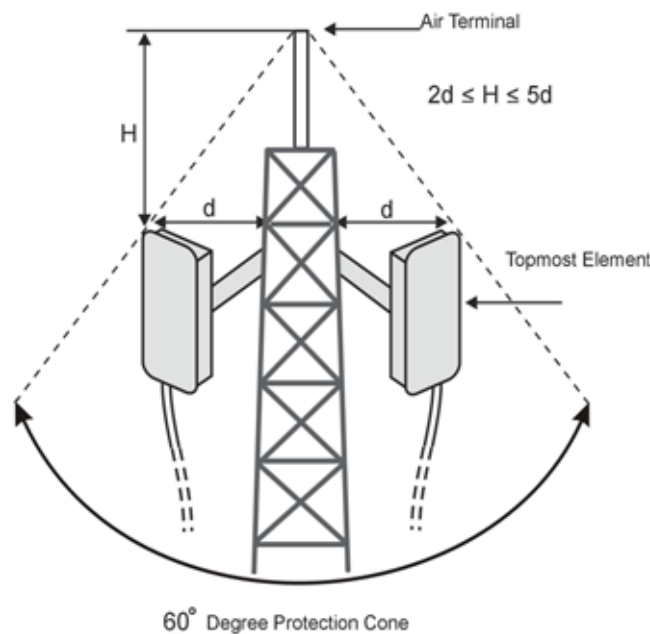

Figure 2-1: Air Terminal and Position Relative to Topmost Elements
The Air Terminal must be constructed of steel with a pointed tip. Referring to Figure 2-1 below, the height (H) of the Air Terminal tip above the highest Alvarion element on the tower or pole, typically the antenna, must be at least twice the distance (2 x d) between the outer surface of the antenna and the tower or pole. This will ensure a "protection cone" of 60° around the tower or pole. In areas of high lightning activity, the length (H) should be increased to up to 5 times the distance.